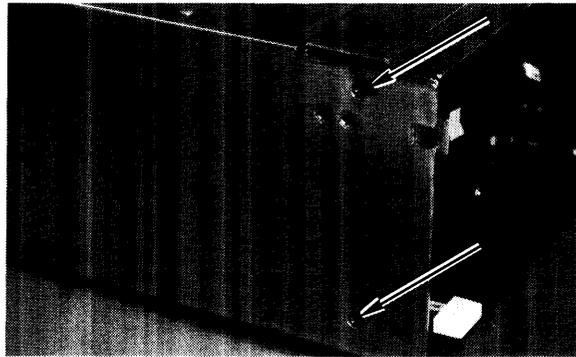

Figure 2-14. Fan Housing Screws
3. Remove the four screws holding the fan housing in place. Refer to Figure 2-14.